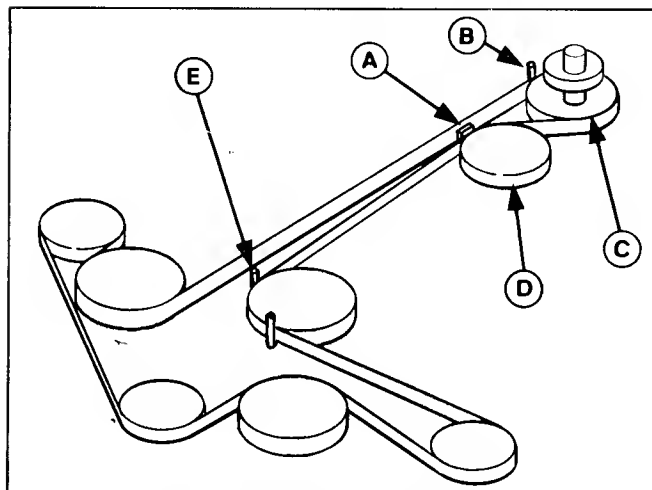

Figure 14. 42" Mower Belt Pattern
3. Remove pin and washer to disconnect the PTO rod (C). Remove the clip and pin that secures the lift clevis (D).
4. To slip belt off the engine pulley (C, figure 14 or 15), loosen the idler pulley belt guide (A).
2. Slip belt onto the engine pulley. Refer to figure 14 or 15 for pattern. Be sure there are no twists in belt.
6. Position the belt guide (A, figure 14 or 15) and belt stops (B and E) 1/16 to 1/8 inch from belt with belt engaged. Tighten securely.